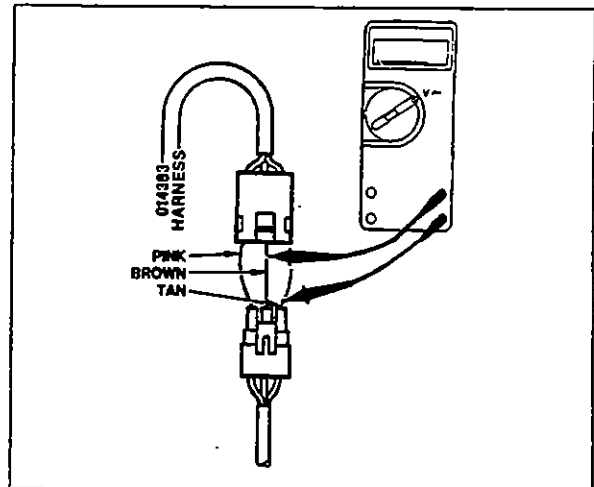

Fig. 1.1.12
**Correction:** De-energize the system and disconnect the harness, P/N 014383, from the ALIPS harness. Using the three clip leads, reconnect the brown, tan and pink wires. Connect the positive (+) probe to the tan wire and the negative (-) probe to the brown wire (Fig. 1.1.12). With the system energized and clutch engaged (pedal up), reading should be 5 volts. If not, replace the control module.